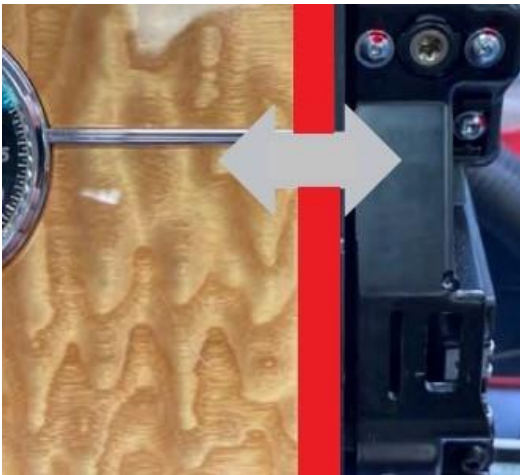

Figure 4
- **HINT: Referring to Figures 4 and 5, if there is a large gap on one side of the fascia panel and a small gap on the opposing side or a report of clashing with driver fascia or clunking the operative should check to confirm the bearings of the unit have not displaced as shown in Figure 6**